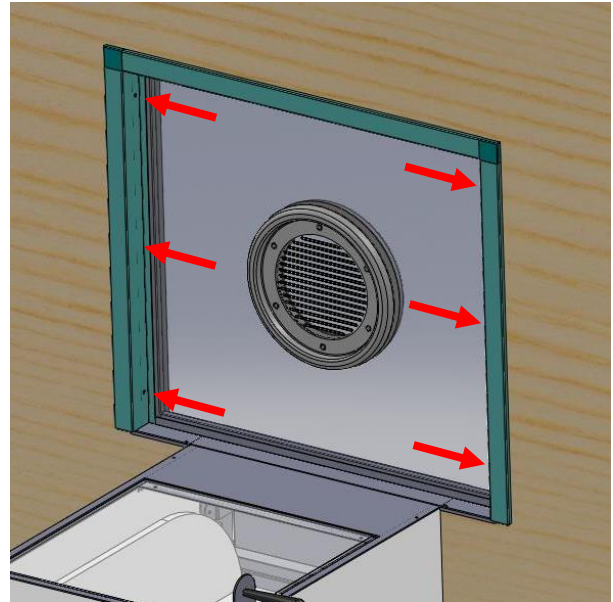

Figure 16. Fasten the Retaining Brackets to the frame of the cut-out
- J. Reinstall the Glass Retaining Brackets with the Tempered Glass Window in its final position. Align the bracket mounting holes and fasten the Retaining Brackets to the frame of the wall cut-out (**Figure 16**). For a cleaner finish, pre-drill and countersink each of the mounting holes.